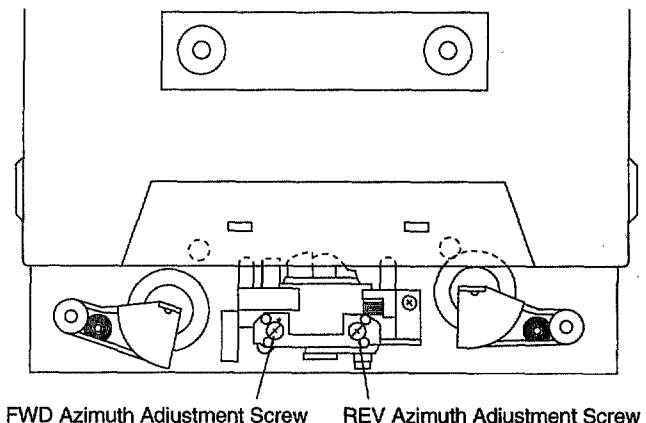

Fig. 2-3 Head Azimuth Adjustment
- Adjustment points and test points are shown in Fig. 2-3 and Fig. 2-4.
| 1    | AUTO (NORMAL)        | PLAY | STD-331E test tape (Playback: 10kHz, -20dB) | Deck I           | Head azimuth adjustment screw (Fig. 2-3) | TAPE TEST POINT (L, Rch) | Max. playback signal level | After adjustment, apply silicon bond to the head azimuth adjustment screw. |